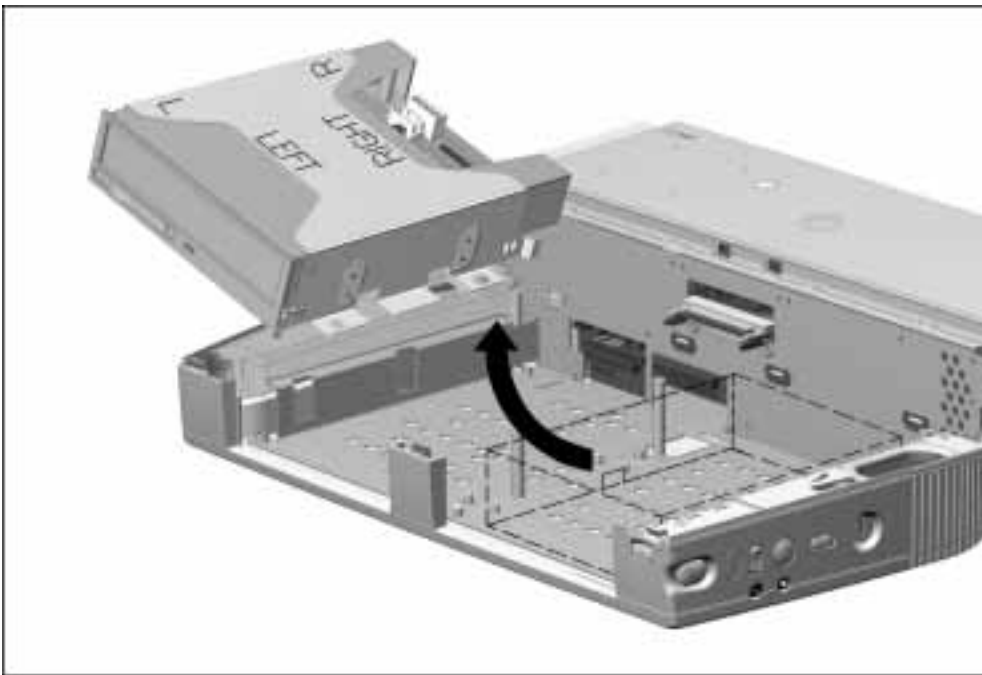

Figure 5-21. Removing a Half-Height MultiBay Adapter
3. Lifting the left side first, lift the adapter out of the base assembly until the security extension bar on the right side is clear (Figure 5-21).